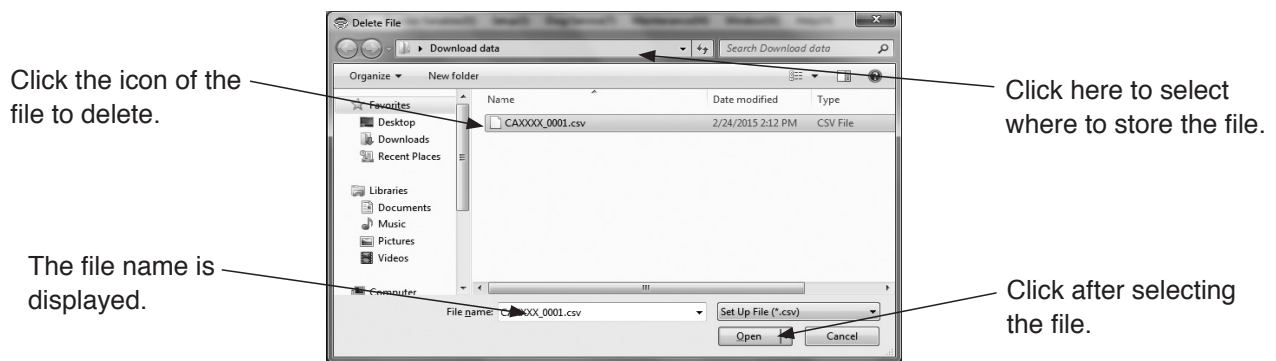

Fig.177
- ① Click the "File (F)" menu, and then select and click "Delete File (X)" from the "Database (F)" drop-down list.
- ② The common dialog box (Fig. 177) will be displayed. Select the disk and folder in which the file to be deleted is stored from the drop-down list.
- ③ Select the file to delete by clicking it. Verify the "File Name (N)" and click the "Open (O)" button. To exit without deleting the file, click the "Cancel" button.